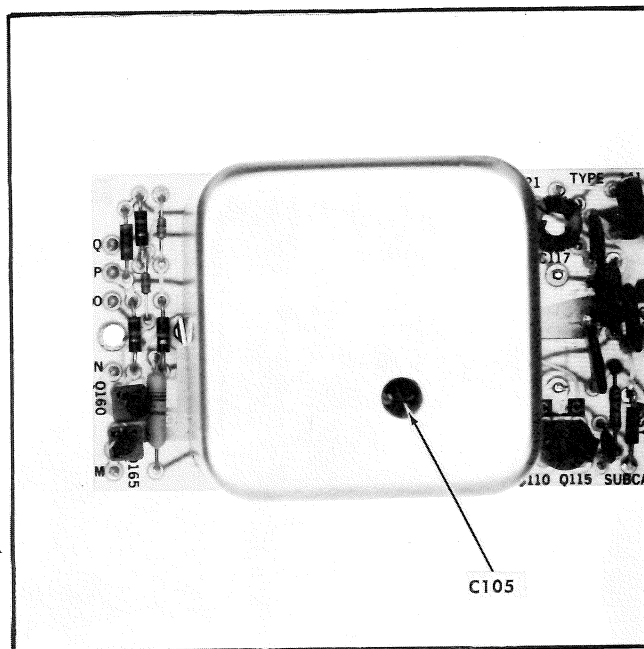

Fig. 5-4. Subcarrier Output board; oscillator adjustment location.
d. ADJUST—C105 (see Fig. 5-4) counterclockwise while observing the digital frequency counter readout; frequency must be adjustable to at least 4.43362375 MHz (5 Hz above center frequency).
**3B. (Alternate Procedure) Check/Adjust Subcarrier Oscillator Frequency** ①
f. ADJUST—C105 (see Fig. 5-4) for the least amount of drift.